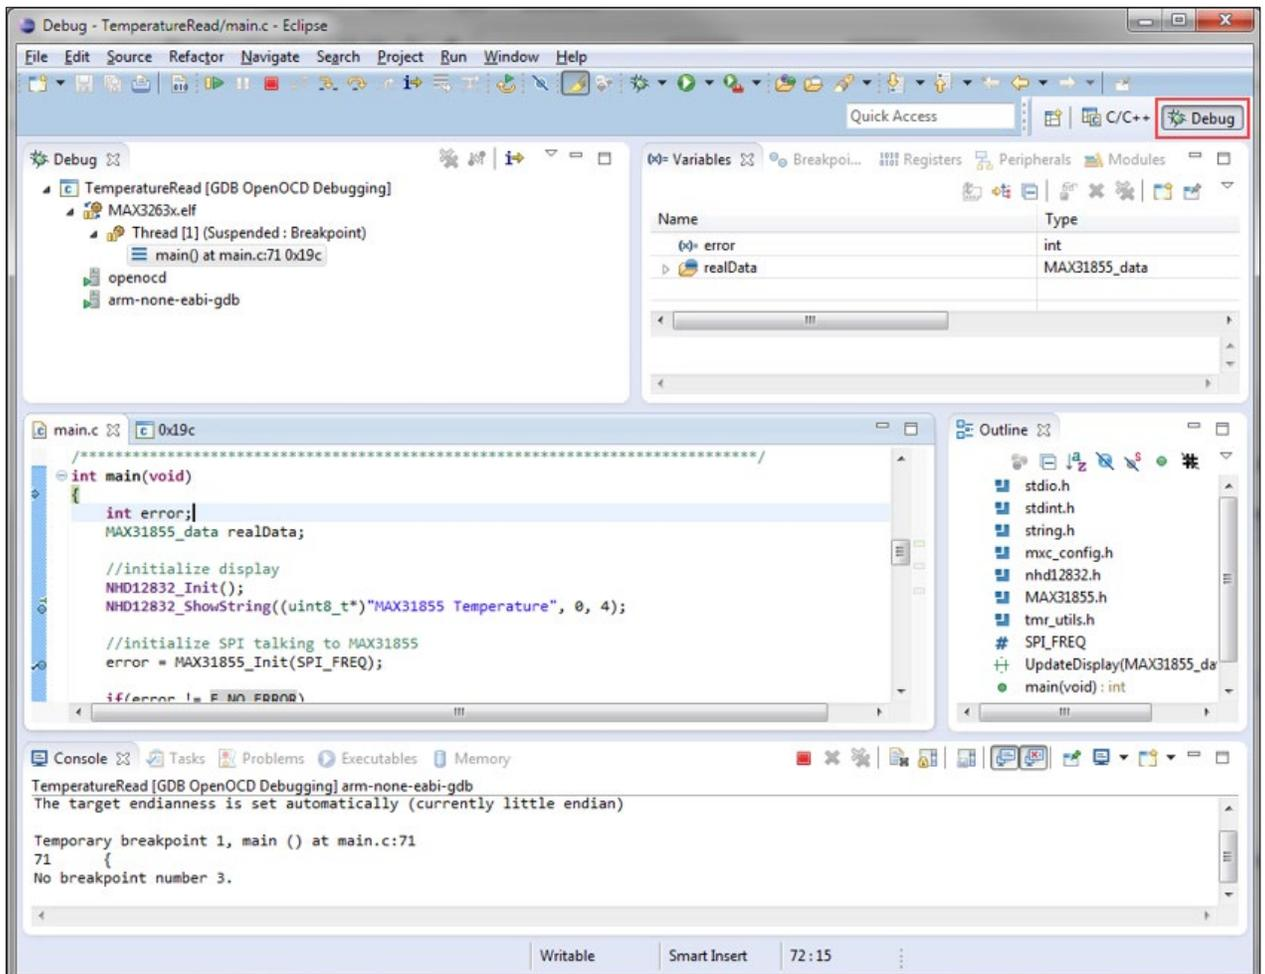

Figure 9. TemperatureRead Debug perspective.
4. Click **Debug**. Eclipse opens the Debug perspective and attempts to build the program, load the program to flash, and run the program. By default, a breakpoint is set at the first line of main.c. **Figure 9** shows the TemperatureRead Debug perspective.